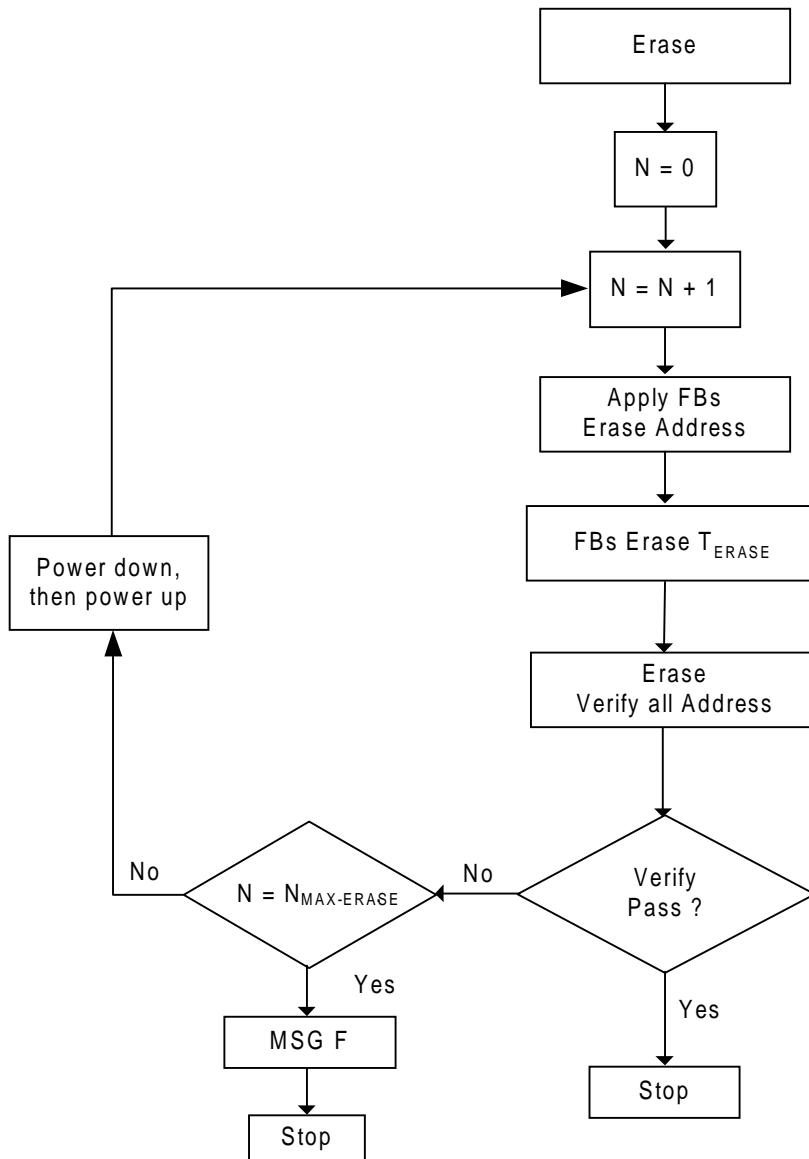

Figure 3. Erase Flow
To erase the device, follow the flow in Figure 3 and the timing according to Figure 9. See the Add.dat file for the Function Block (FB) erase address. Erase the device with Vpp set to Vppers and then perform an erase verify with Vpp set to Vppbnk. If any bits failed to erase, a number of retries are permitted. The number of retries ($N_{MAX-ERASE}$) can be calculated using the following equation: